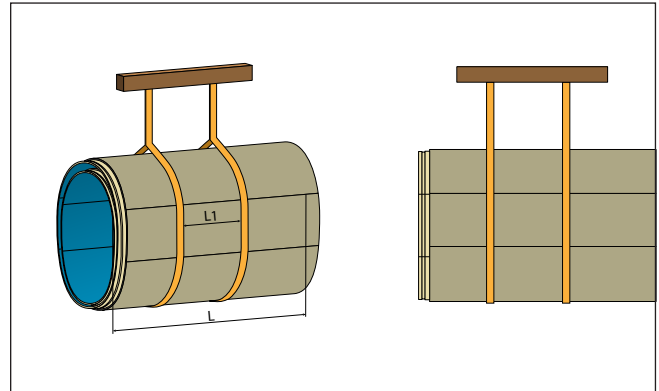

Fig. 14: Lifting of nested pipes, ($L1 = 0.6 \times L$)
- Always lift the nested set of pipes using at least two flexible transport straps. The spacing of straps and their load capacity should be chosen each time for the given set of pipe profiles (Fig. 14).